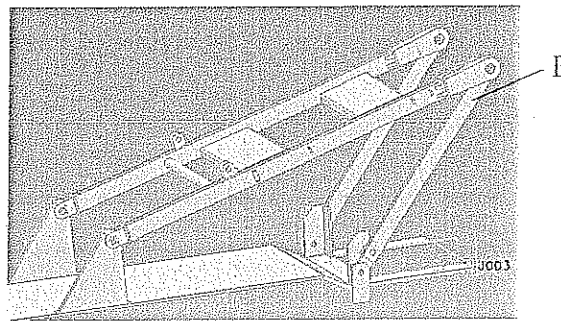

Figure 6-3
(2) Pull out the pin at B(see figure 6-3) .